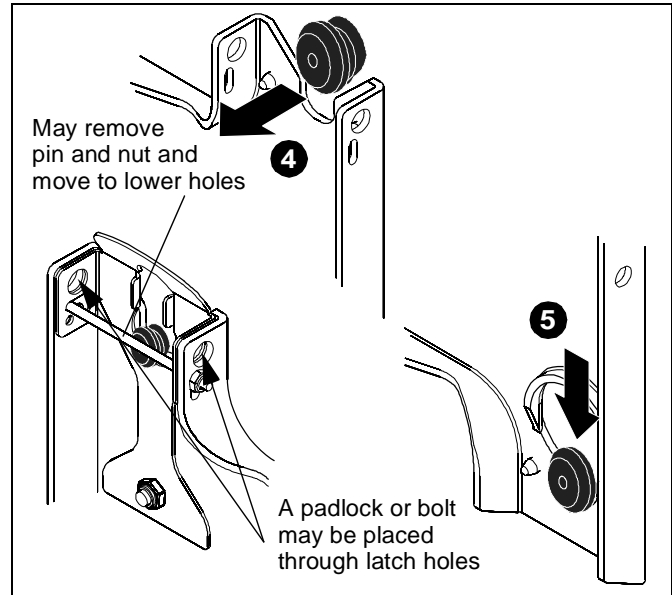

Figure 12
**NOTE:** Holes are provided in the faceplate for use with a padlock or similar locking device, if desired. In addition, the pin and nut may be removed from the upper holes and moved to the lower holes for use as a more permanent locking device. (See Figure 12)